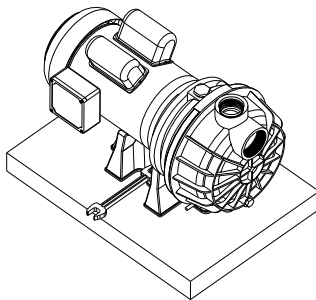

Figure 4
1. Bolt pump to solid, level foundation (See Figure 4).